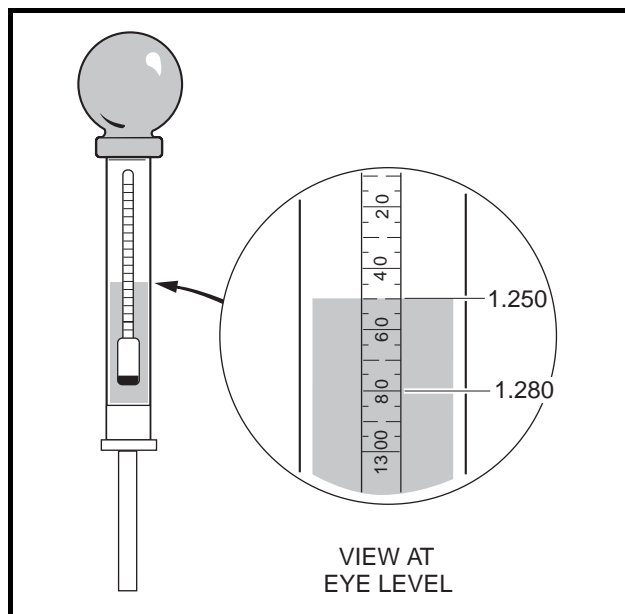

Figure 14-8 Hydrometer
5. Hold the hydrometer vertically, ensuring that the float is not touching the sides of the barrel. Hold the hydrometer at eye level and read the scale at the level of electrolyte (**Figure 14-8, Page 14-10**).